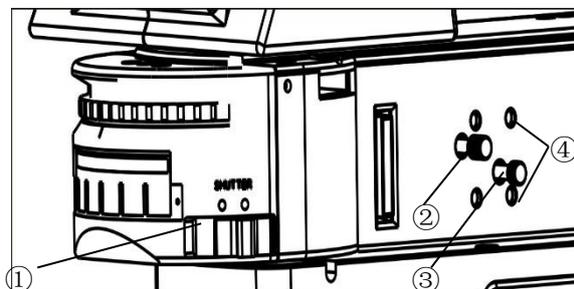

Fig.24
3-20 Aperture diaphragm use (Fig.24, 25)
You must push the aperture diaphragm lever (Num (3) in Fig. 24) to open the aperture diaphragm.